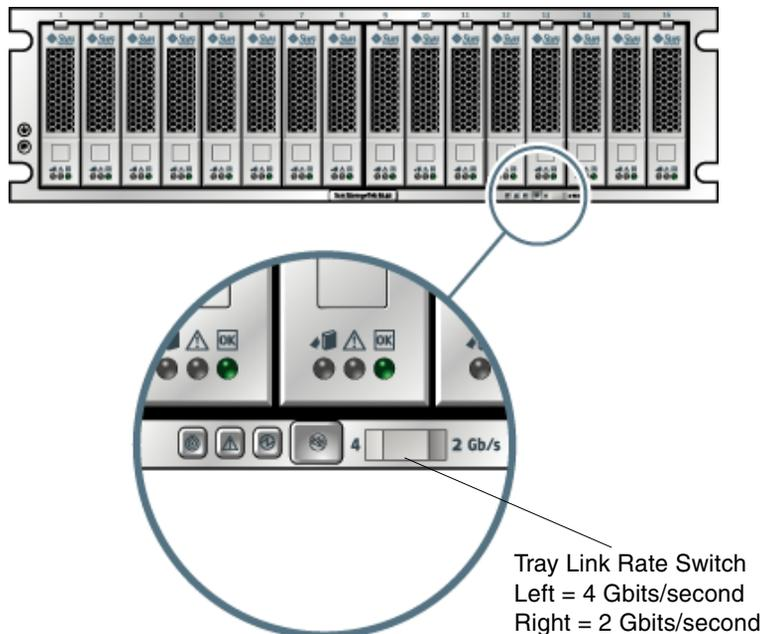

FIGURE 3-1 Tray Link Rate Switch
1. Locate the Tray Link Rate switch at the lower right front of the tray (FIGURE 3-1).